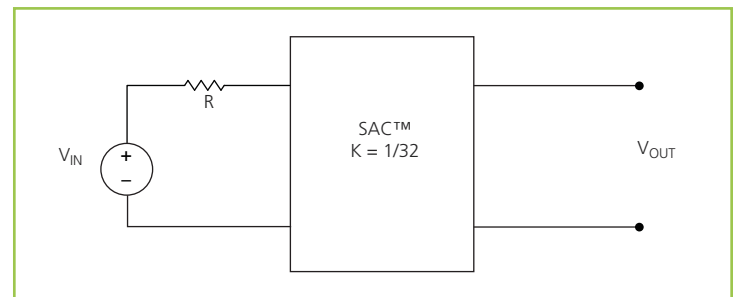

Figure 18 – K = 1/32 Sine Amplitude Converter with series input resistor
The use of DC voltage transformation provides additional interesting attributes. Assuming that  $R_{OUT} = 0 \Omega$  and  $I_Q = 0 A$ , Eq. (3) now becomes Eq. (1) and is essentially load independent, resistor R is now placed in series with  $V_{IN}$  as shown in Figure 18.
Assuming that  $R = 1 \Omega$ , the effective R as seen from the secondary side is  $1 \text{ m}\Omega$ , with  $K = 1/32$  as shown in Figure 18.